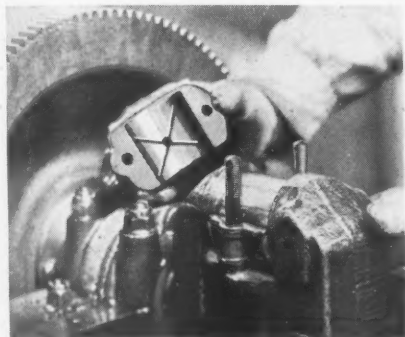

Fig. 7. In Removing Connecting Rod Caps Hold Rod and Bolts as Shown and Keep Shims in Place
Reverse engine in stand. Connecting rods 1 and 4 are now accessible for removal. Remove cotter pins from nuts (2) of rod cap, No. 1, and with left hand hold rod as shown in Fig. 7. Back off nuts, and lift off cap. Lower rod with piston and slip-on cap and catch nuts. This method is recommended as it insures shims remaining in place and nuts on original bolts. Remove No. 4 rod in same manner then turn crankshaft through 180 deg. or a full half turn and remove rods with pistons 2 and 3.